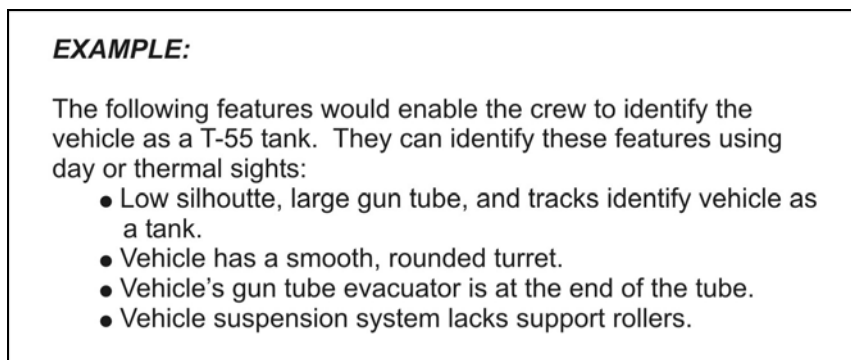

Figure 6-25. Example target description.
b. **Description.** In describing a target, the crew identifies a target by nomenclature (M998, T-55, BMP) based on key recognition features. For example, they look at the target and note that the turret is smooth and rounded, that the gun tube's evacuator is at the end of the tube, and that the suspension system has no support rollers. He therefore describes the target as a T-55 tank. Figure 6-25, page 6-24, shows an example target description.